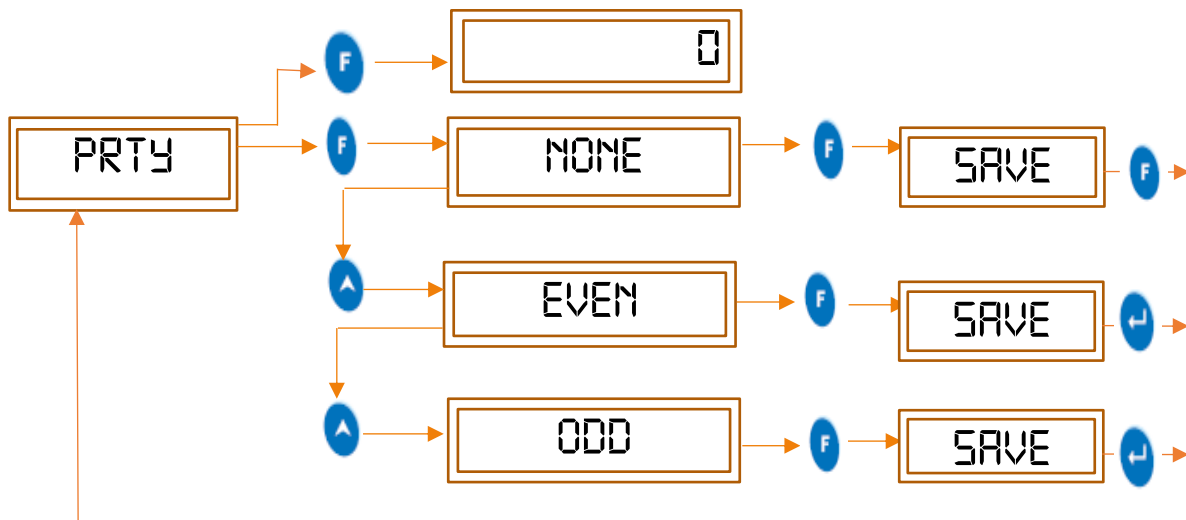

Figure 30 PRY (Parity)
- To set the Parity, follow the procedure shown in figure 30.